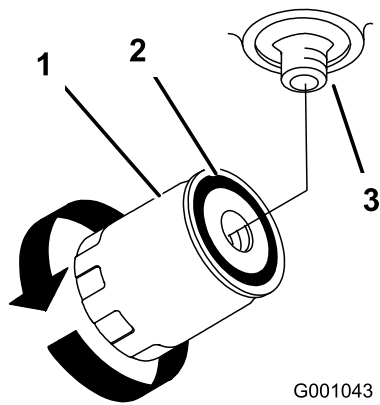

Figure 75
- 4. Remove the old filter and wipe the filter-adapter gasket surface clean (Figure 75).
- 7. Turn the oil filter clockwise until the rubber gasket contacts the filter adapter and tighten the filter an additional 1/2 turn (Figure 75).